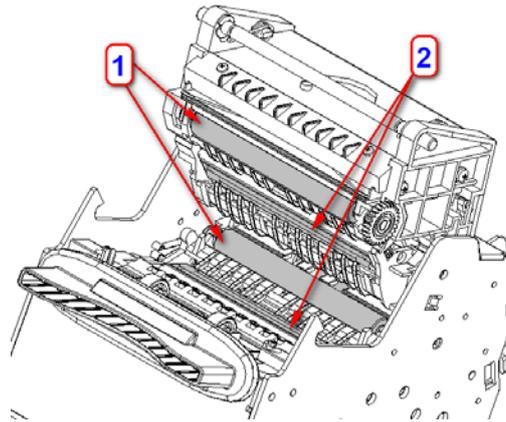

Figure 5.2-2 Cleaning print head
- 3) In figure 5.2-2, No.1 is platen roller and No.2 is print head. Clean the surface of print head with soft cotton cloth dipped with pure alcohol (it should be wrung out);